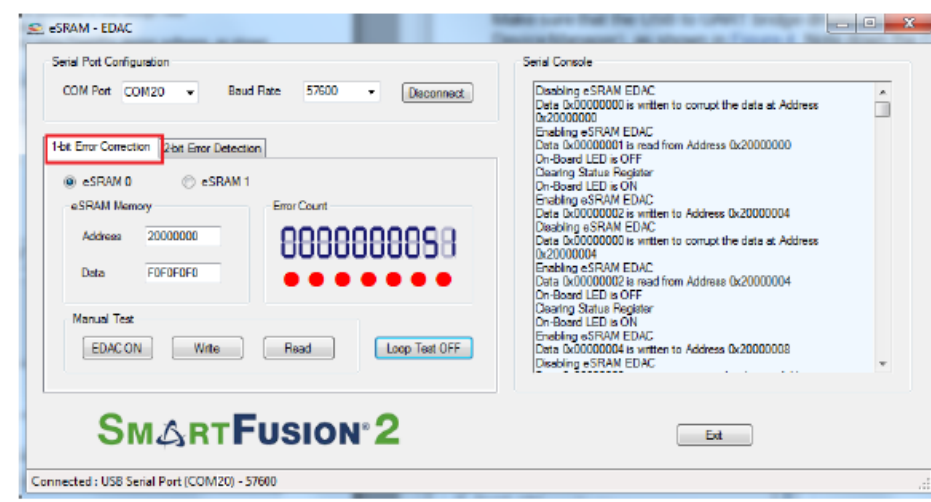
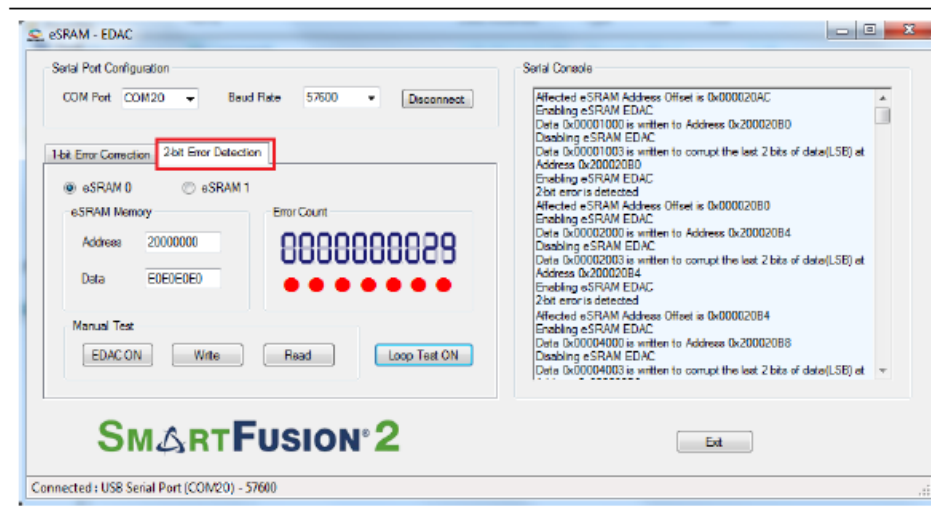

Figure 7. 1-bit Error Correction Tab
Figure 8. 2-bit Error Detection Tab
8. Select the 1-bit Error Correction tab or 2-bit Error Detection tab, as shown in Figure 7. and Figure 8.